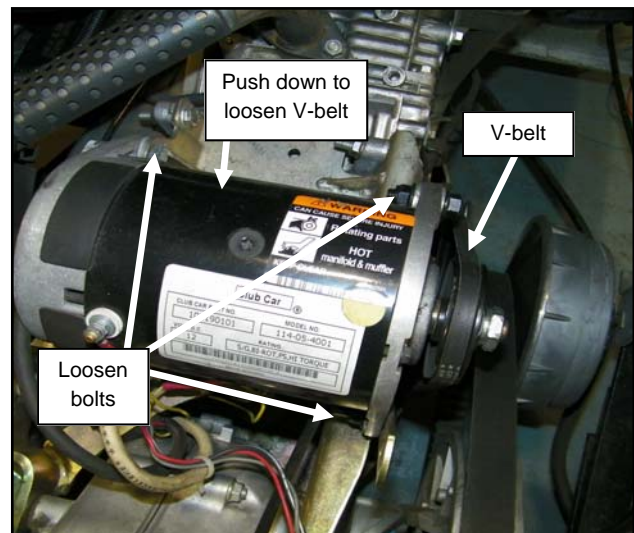

Fig. 1.3 (Loosen Starter Generator)
- 1.3 Loosen the Starter Generator and disengage its V-belt. Figure 1.3.